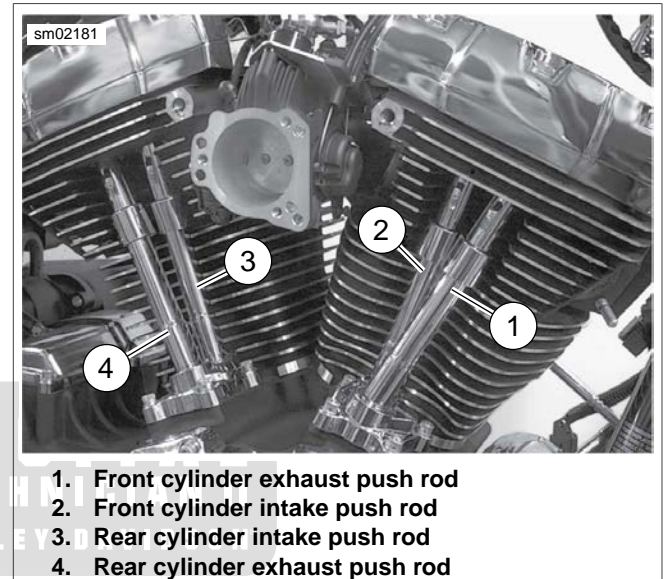

Figure 3-17. Push Rod Locations
1. See Figure 3-17. Remove the intake and exhaust push rods and push rod covers.